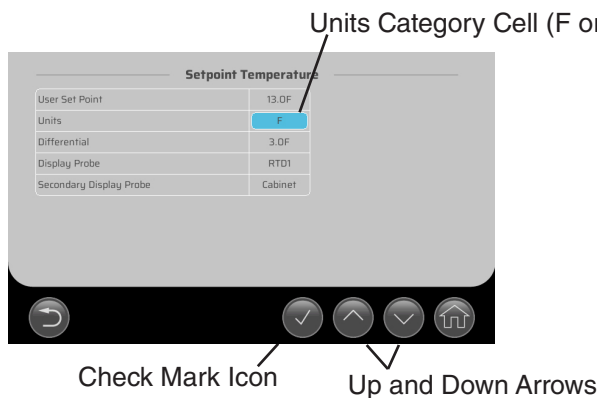

Fig. 24
- Press the Units category cell for F or C. See Fig. 24.